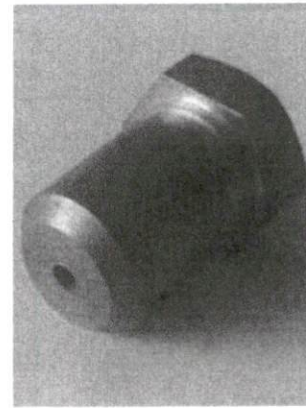

Fig. 10
- 3、 When exchange gas source, use the main fire orifice (Fig.10) in the accessories. Follow rules of 8.5.